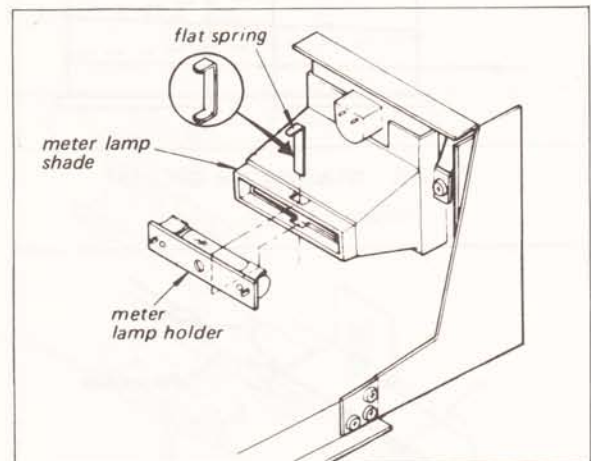

Fig. 2-4. Meter lamp removal
1. Straighten the flat spring, then pull it up as shown in Fig. 2-4. This frees the meter lamp holder.